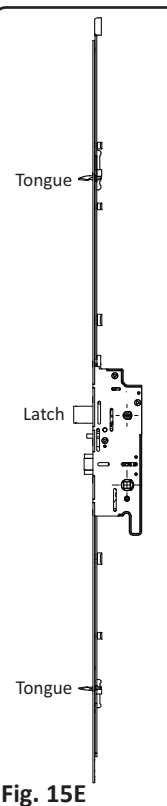

Fig. 15E
- A 3-point lock (Fig. 15E), featuring the same latch and dead bolt at the handle elevation plus two additional latches (tongues) located at the top and bottom of the active door panel stile (Fig. 15E & 15F).